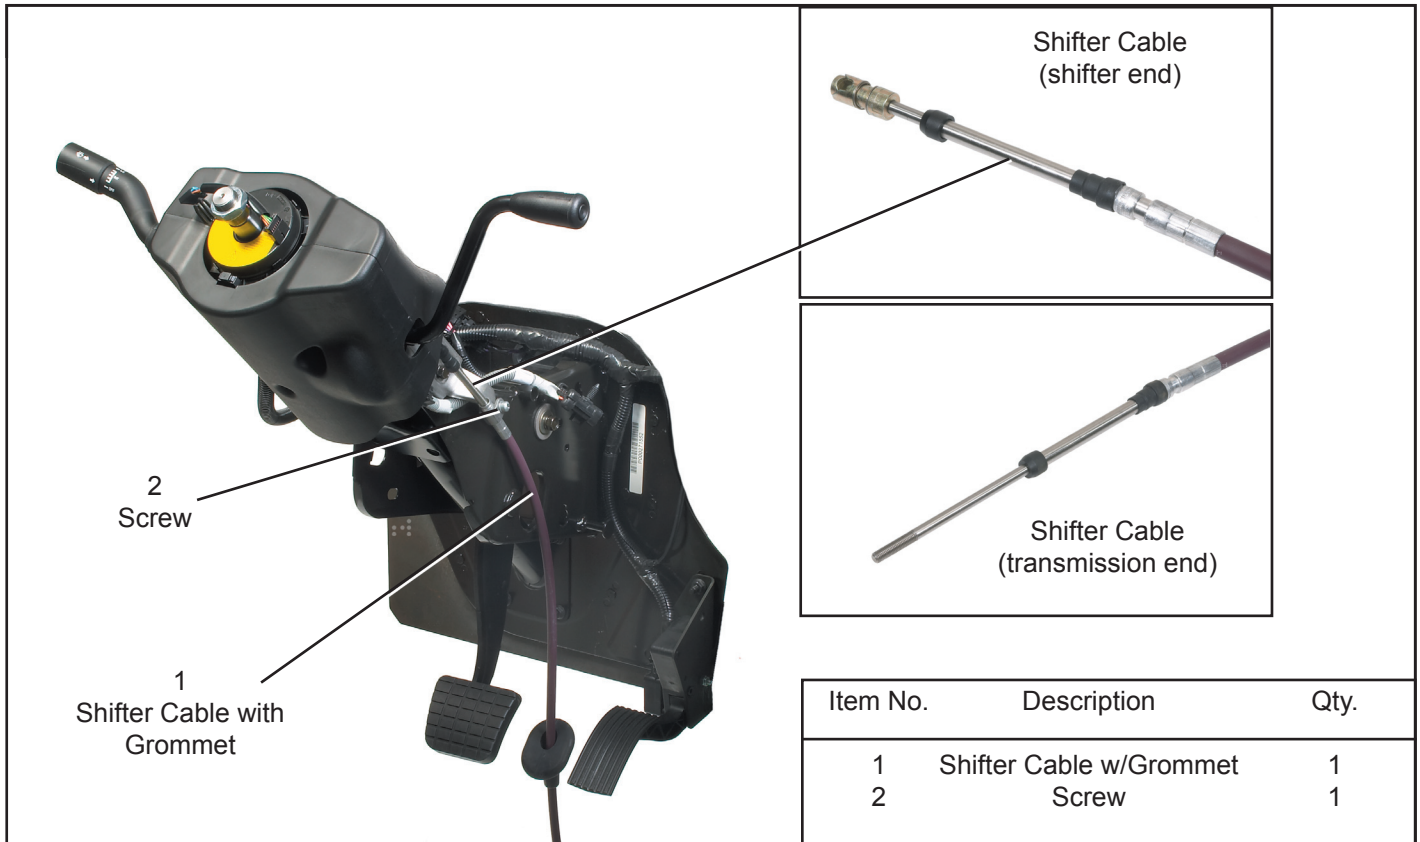

Figure 1 - Automatic Transmission AT Shifter Cable Kit
6. Disconnect the shifter cable(1) from the shifter lever on the transmission. See Figure 1. Refer to the transmission manufacturer's instruction if required. Again, make sure that the vehicle park brake is applied as the vehicle may shift out of park (if so equipped).
7. Remove and discard the shifter cable(1) by routing it back up through the inside of the vehicle. When removing the cable note the routing back to the transmission and loosen any clipping under the cab and along the frame or the transmission.